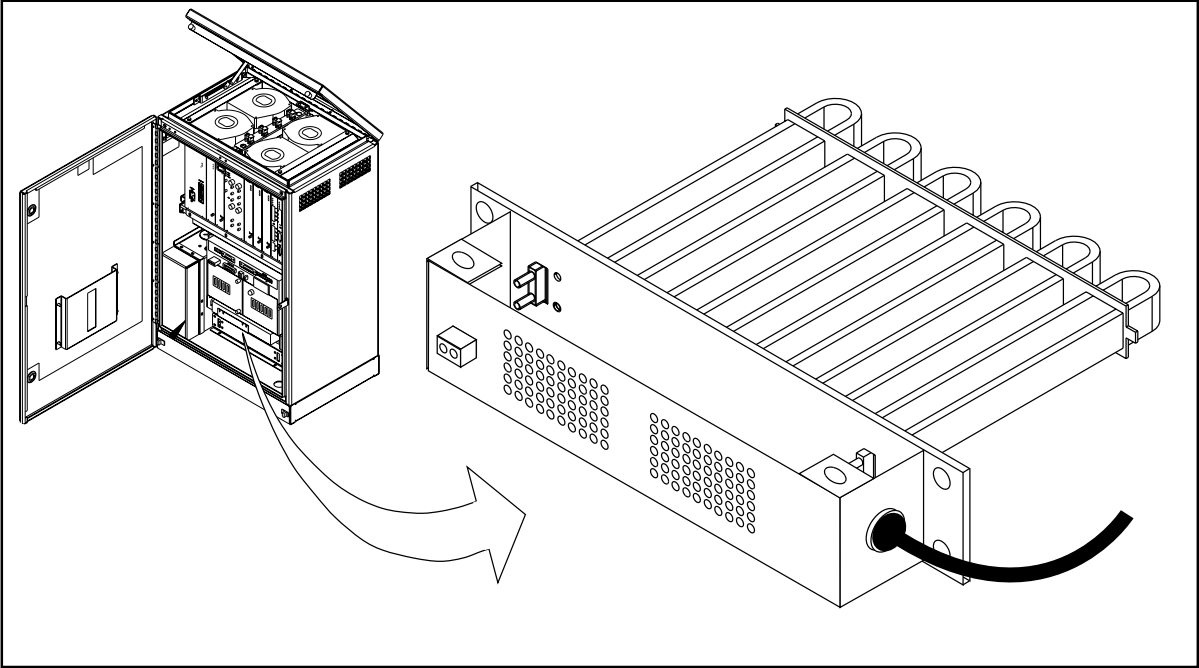

Figure 5-20. Subrack Heater
- 4. Locate the Main Heater Assembly. See Figure 5-20 on page 5-43.